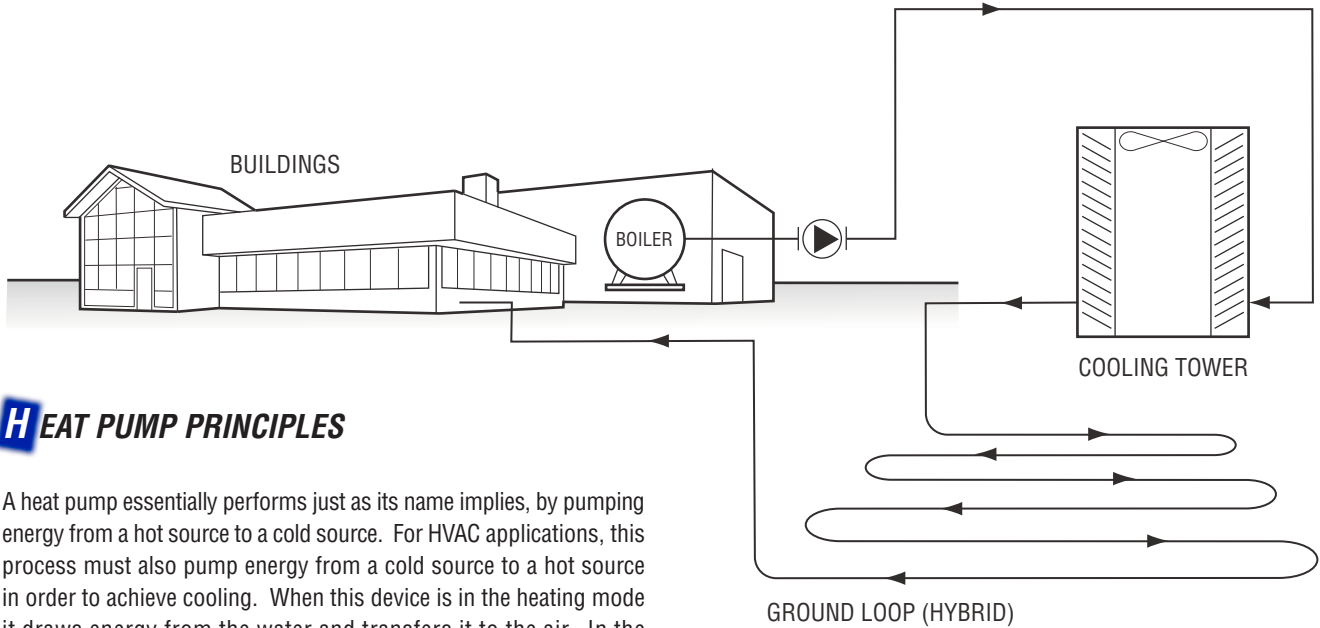

Figure 2 - Hybrid Loop with Boiler and Cooling Tower
Many hybrid loops are being developed to help reduce the length of piping installed in the ground. The earth handles the majority of the load, but a boiler is installed to lend support during peak heating times, and a cooling tower or chiller is installed to assist during maximum cooling times. (Refer to Figure 2.)
- 4.) **Ground Loop (Hybrid)** - Boiler/tower water loop system. - (Figure 2)